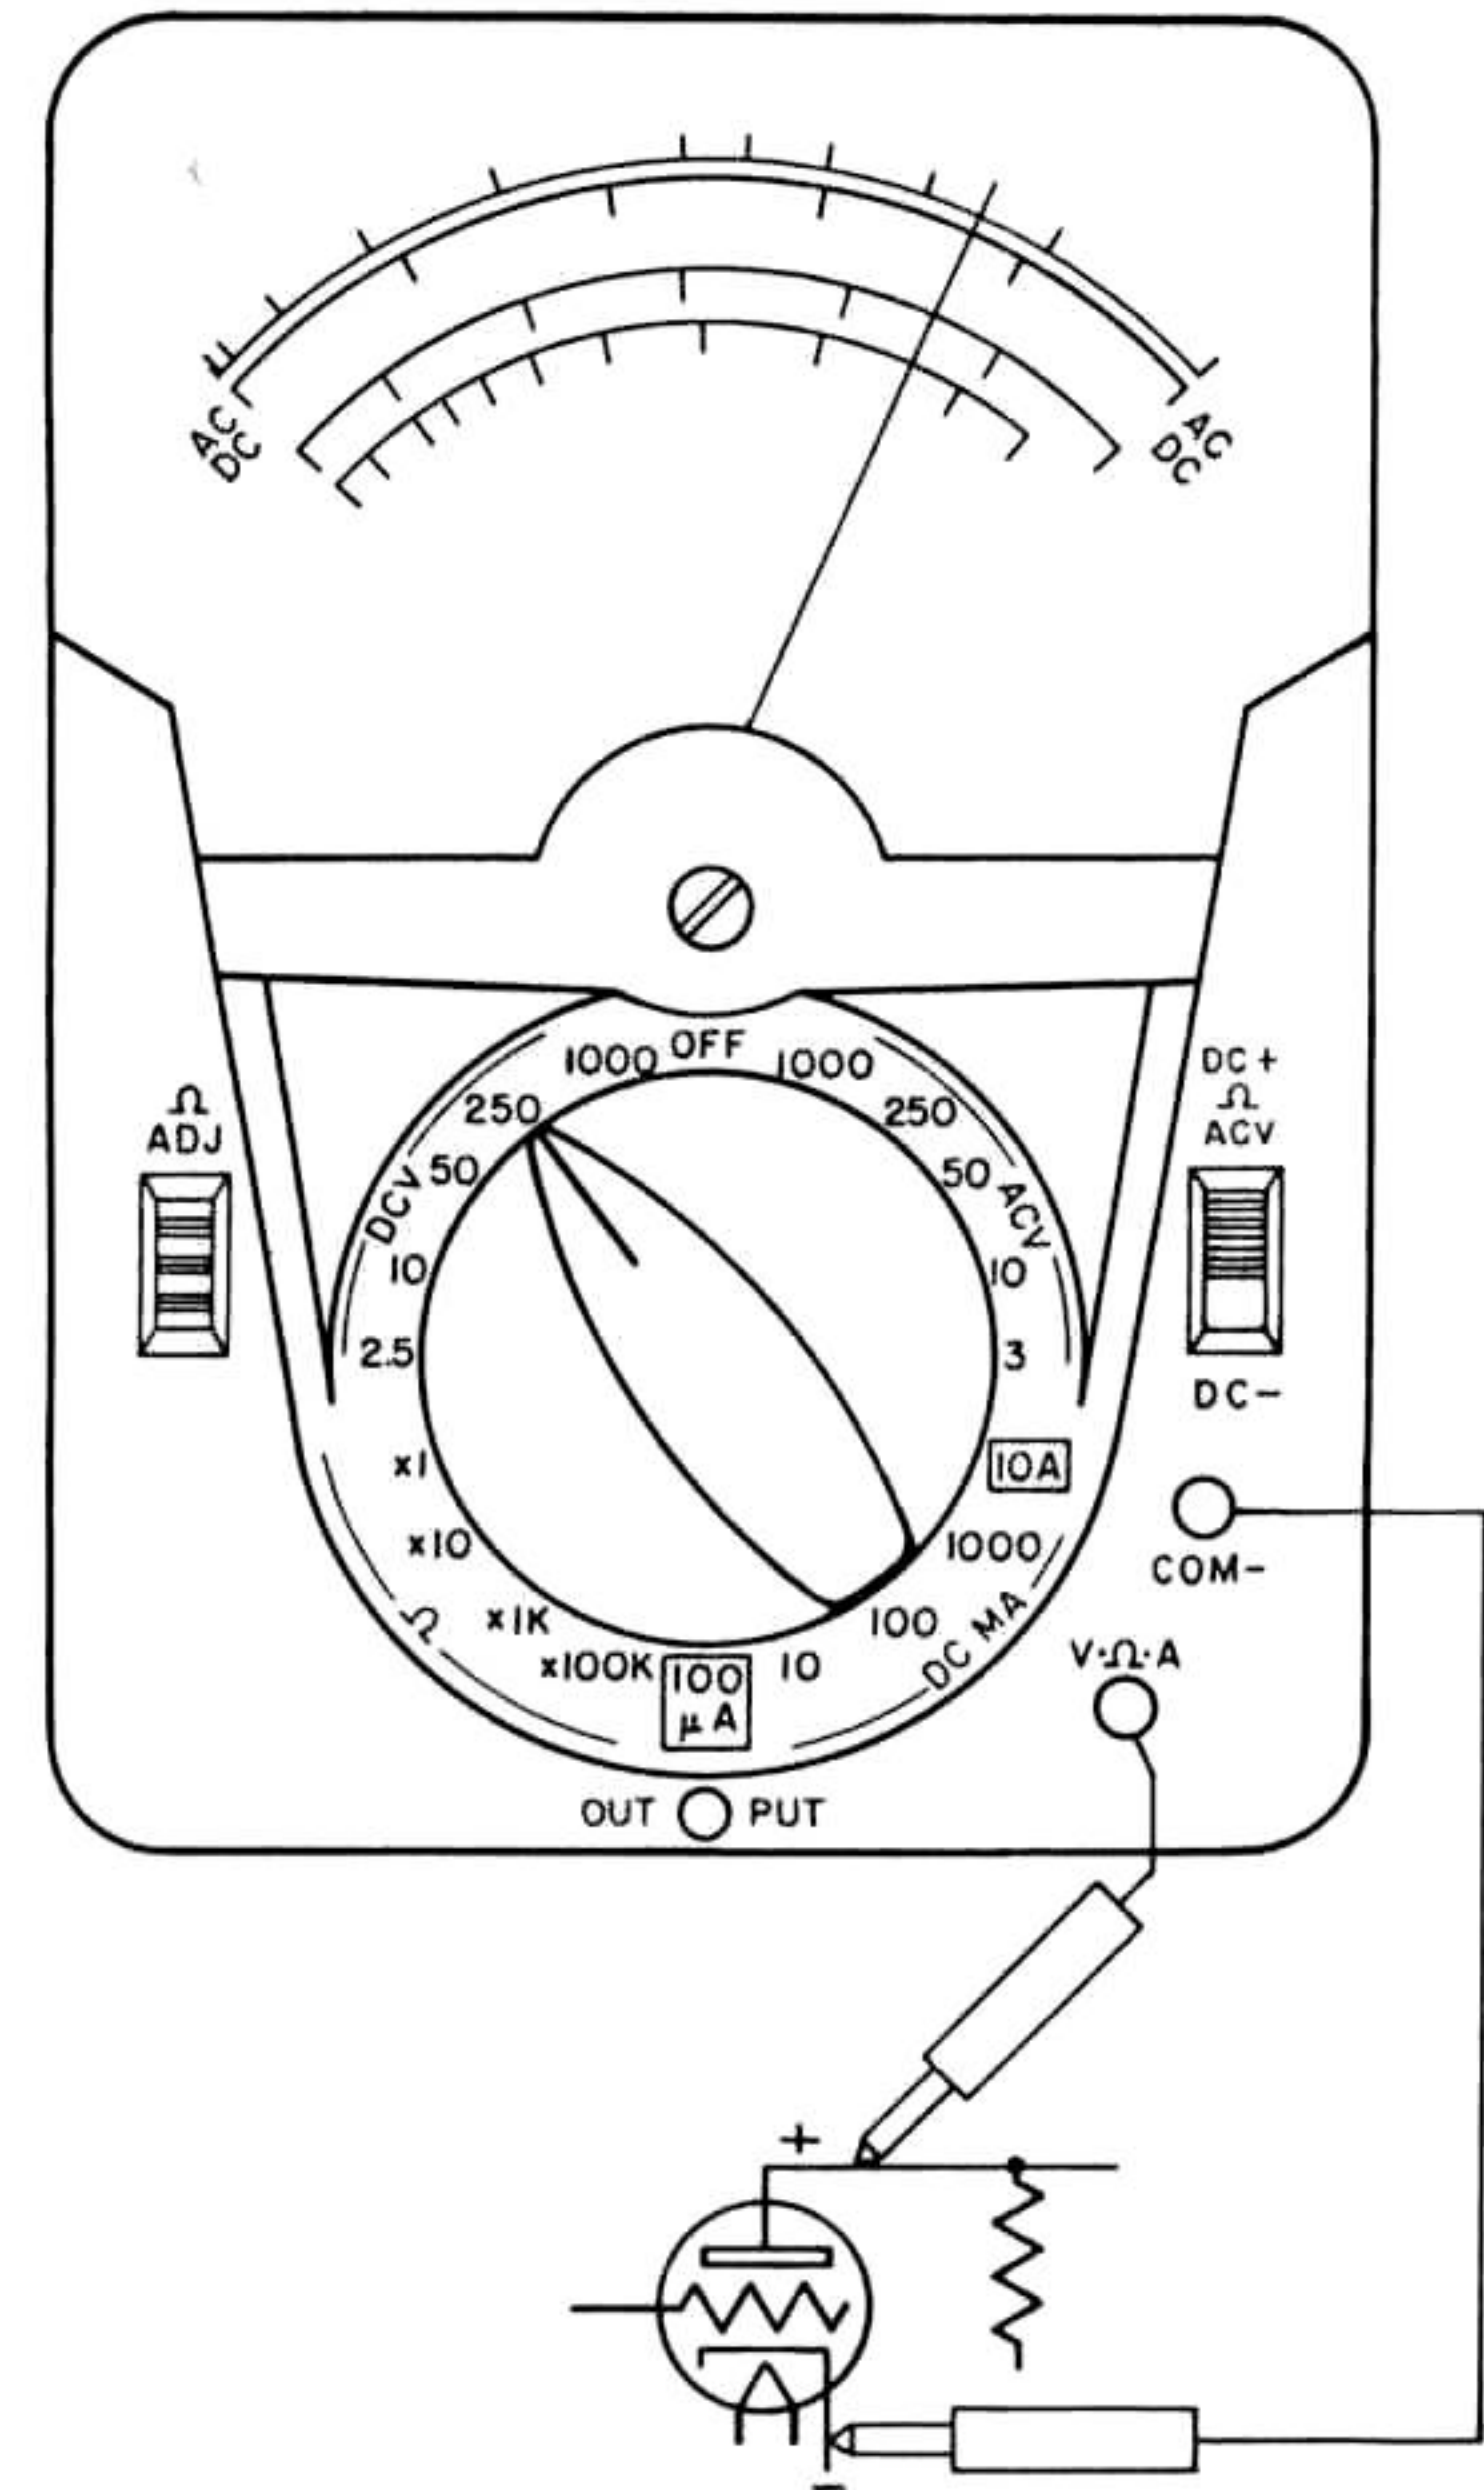

Fig. 1. Measuring DC Volts
3. Connect the test probes across the voltage to be measured as shown in Fig. 1.